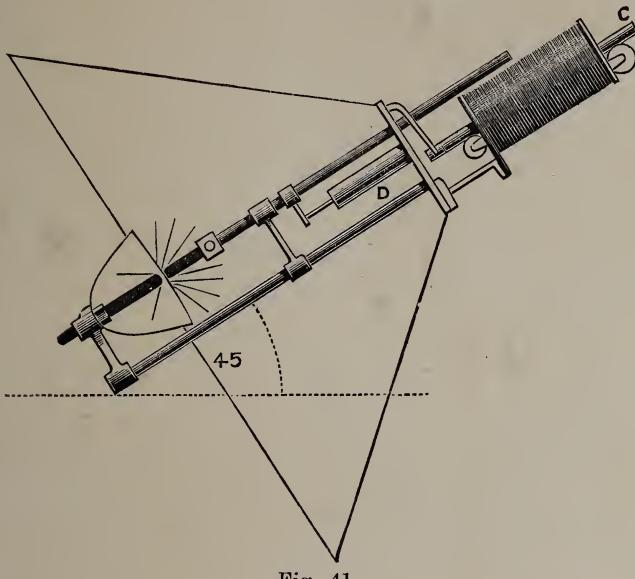

Fig. 41.
The next arrangement for portraiture is one of the author's design, and is made for any kind of current. It is a clutch lamp, and is shown in diagram in Fig. 41. A single coil works a laminated core, which pulls up a clutch lifting the sliding rod and so forms the arc ; as the arc lengthens the current
For instance, in Fig. 41 we have a core (C) in the mechanism, which acts by gravity. This is a drawback to that mechanism, for it requires the lamp to be used always at the same angle, so that gravity may always be the same. This is not of much consequence, however, for there is only one angle at which the best portraiture work can be effected—an angle of about 45°.